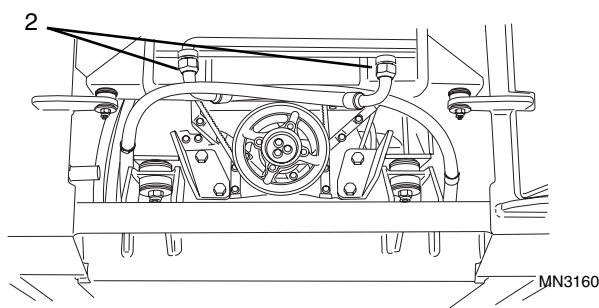

Figure 10-34 Hydraulic Oil Cooler Connections
10. Place a drain pan under the hydraulic oil cooler lines (Fig. 10-34, 1 or 2) to catch any oil that comes out of the oil cooler or lines as they are removed. Loosen and remove one line at a time from the bottom of the cooler, plugging the hose end and capping the cooler fitting immediately. Loosen and remove the remaining cooler line, also plugging the hose end and cap the line.